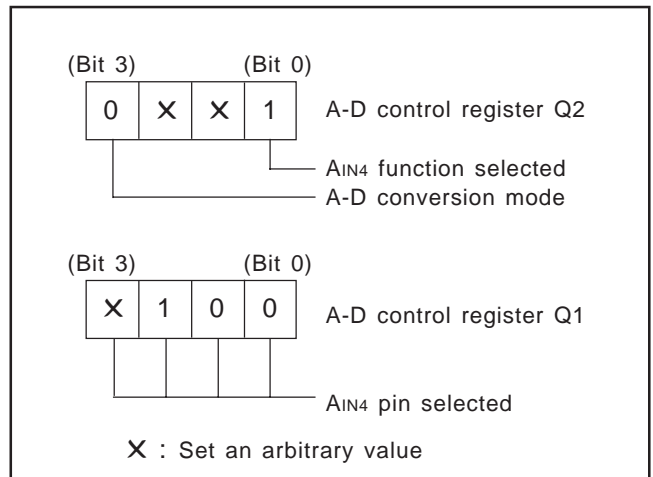

Fig. 28 Setting registers
- ① After selecting the AIN4 pin function with the bit 0 of the register Q2, select AIN4 pin and A-D conversion mode with the register Q1 (refer to Figure 28).
- ② Execute the ADST instruction and start A-D conversion.
- ③ Examine the state of ADF flag with the SNZAD instruction to determine the end of A-D conversion.
- ④ Transfer the low-order 2 bits of converted data to the high-order 2 bits of register A (TALA instruction).
- ⑤ Transfer the contents of register A to M(Z, X, Y) = (0, 0, 2).
- ⑥ Transfer the high-order 8 bits of converted data to registers A and B (TABAD instruction).
- ⑦ Transfer the contents of register A to M(Z, X, Y) = (0, 0, 1).
- ⑧ Transfer the contents of register B to register A, and then, store into M(Z, X, Y) = (0, 0, 0).